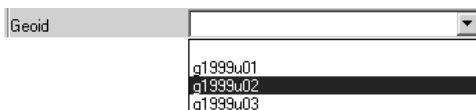

Figure 3-17. Select Geoid Model
- In the right panel, select a geoid model (Figure 3-17).